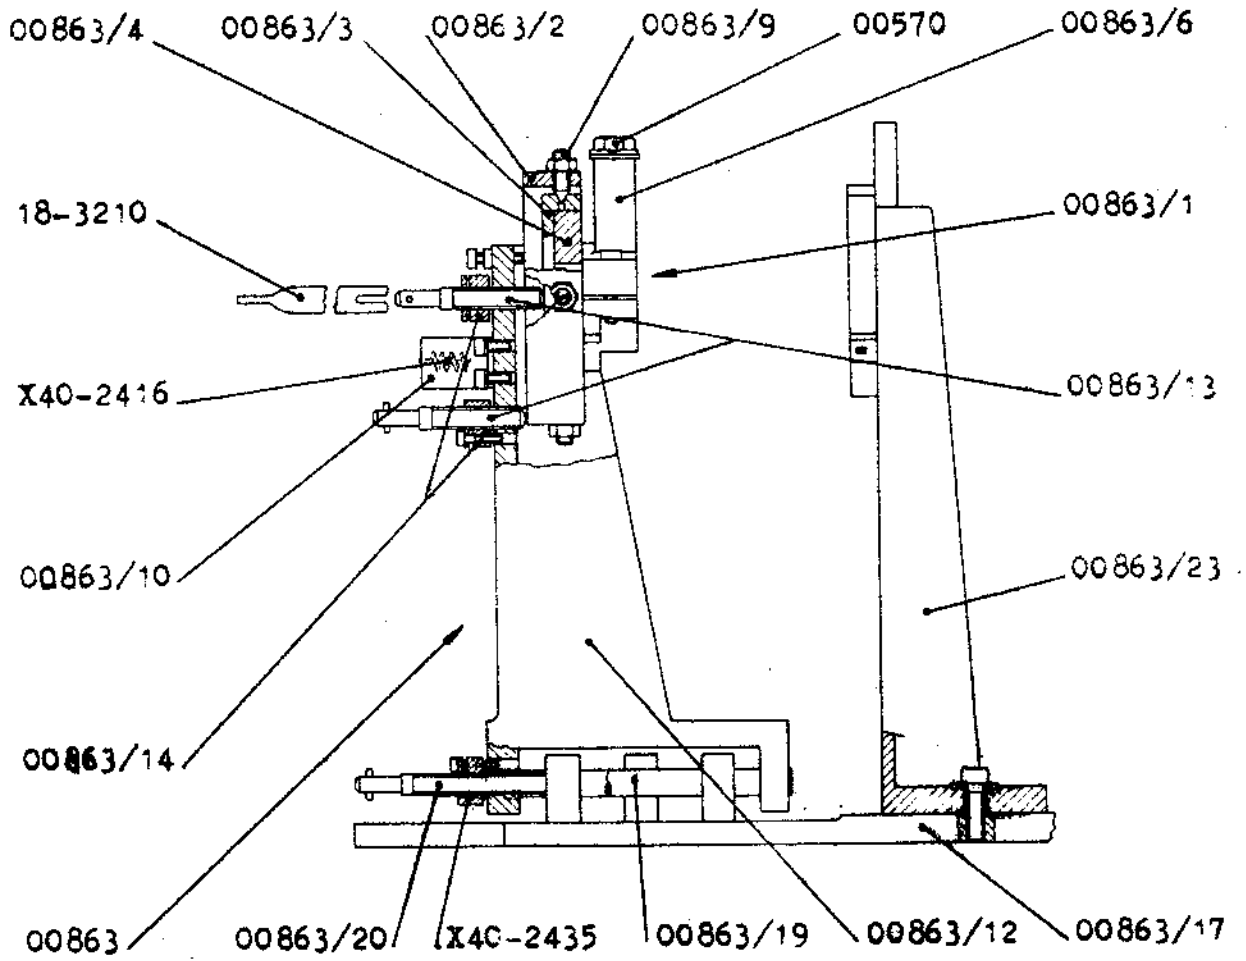

FIG. 3
- FIG. 3 - DISPOSITIVO AMPOLLA ORIZZONTALE
- FIG. 3 - DISPOSITIF LAMPE HORIZONTALE
- FIG. 3 - MIRROR/BULB HOLDER AND CONTROLS